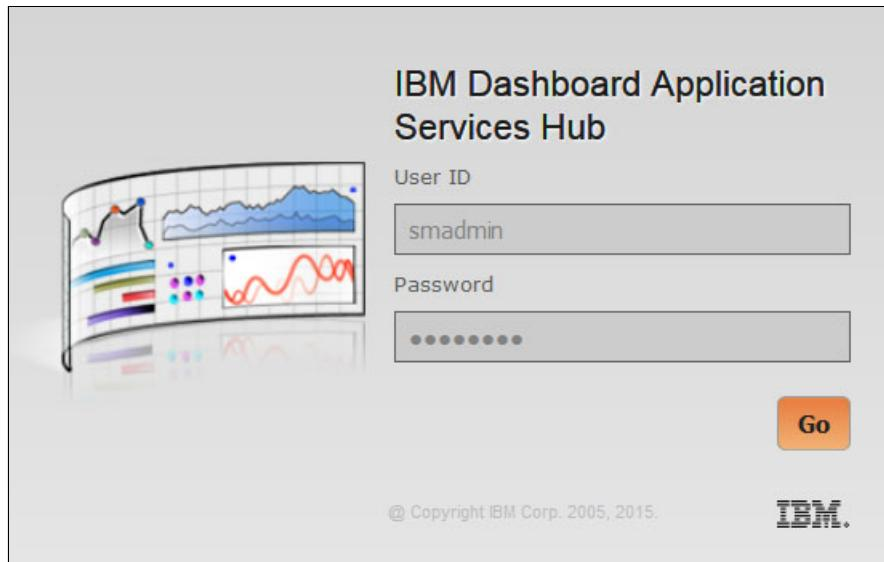

Figure 5-1 IBM Dashboard Application login
1. He logs in to the following Integrated Portal console, as shown in Figure 5-1: